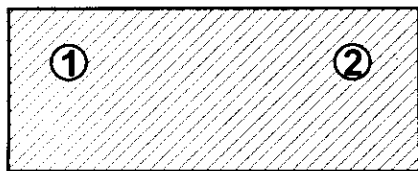

Figure 7. Power Module Mounting Screw Sequence
5. Insert the two M4 mounting screws through the PCB, power substrate and into the heat sink and tighten the screws to 1 Nm torque, according to the sequence shown in Figure 7.